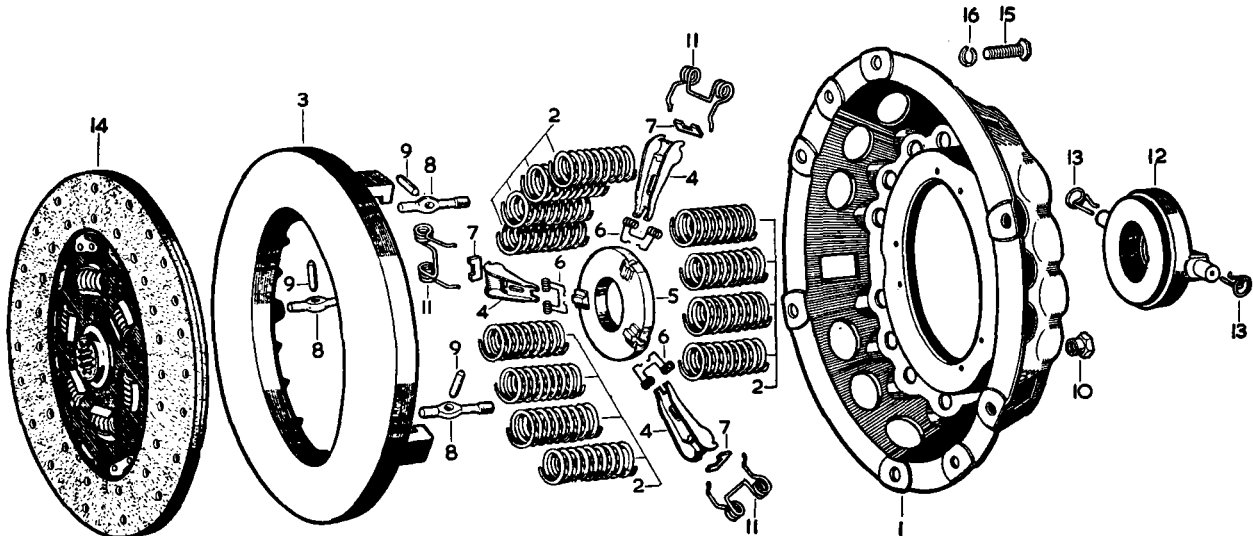

Fig. 9. Exploded view of clutch assembly.
The driven plate assembly (14, Fig. 9) is of the flexible centre type, in which a splined hub is indirectly attached to a disc and transmits the power and overrun through a number of coil springs held in position by shrouds.
Fit a pin (9, Fig. 9) into an eyebolt (8) and locate the parts within a release lever (4). Hold the threaded end of the eyebolt and the inner end of the lever as close together as possible and, with the other hand, engage the strut (7) within the slots in a lug on the pressure plate, with the other end of the strut push outwards towards the periphery of the plate. Offer up the lever assembly, first engaging the eyebolt shank within the hole in the plate, then locate the strut within the groove in the lever. Fit the remaining levers in the same way, not forgetting to lubricate all contact faces.